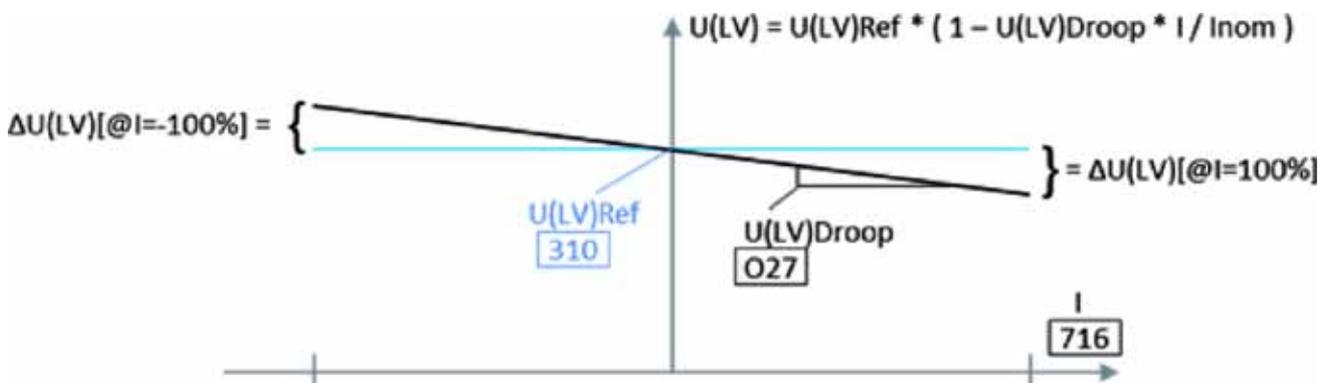

Fig. 24 Low side output voltage droop control.
The low side DC-voltage droop controller adjusts the voltage reference based on the actual LV-side output current (I), i.e. provides for load sharing. The principle function of the voltage droop control is shown in Fig. 24. In Fig. 24, it can be seen that at 100% output current (related to the LV-side nominal DC current) the internal voltage reference is adjusted according to the value of the voltage droop controller gain [O27].